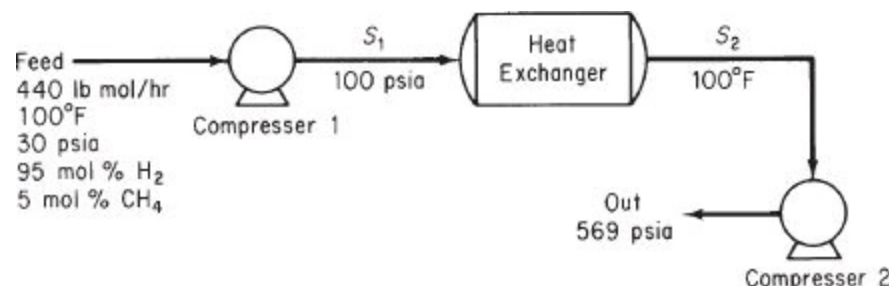

Figure P16.12
16.12. A gas consisting of 95 mol % hydrogen and 5 mol % methane at 100°F and 30 psia is to be compressed to 569 psia at a rate of 440 lb mol/hr. A two-stage compressor system has been proposed with intermediate cooling of the gas to 100°F via a heat exchanger. See Figure P16.12. The pressure drop in the heat exchanger from the inlet stream (S_1) to the exit stream (S_2) is 2.0 psia. Using a process simulator program, analyze all of the stream parameters subject to the following constraints: The exit stream from the first stage is 100 psia; both compressors are positive-displacement type and have a mechanical efficiency of 0.8, a polytropic efficiency of 1.2, and a clearance fraction of 0.05.